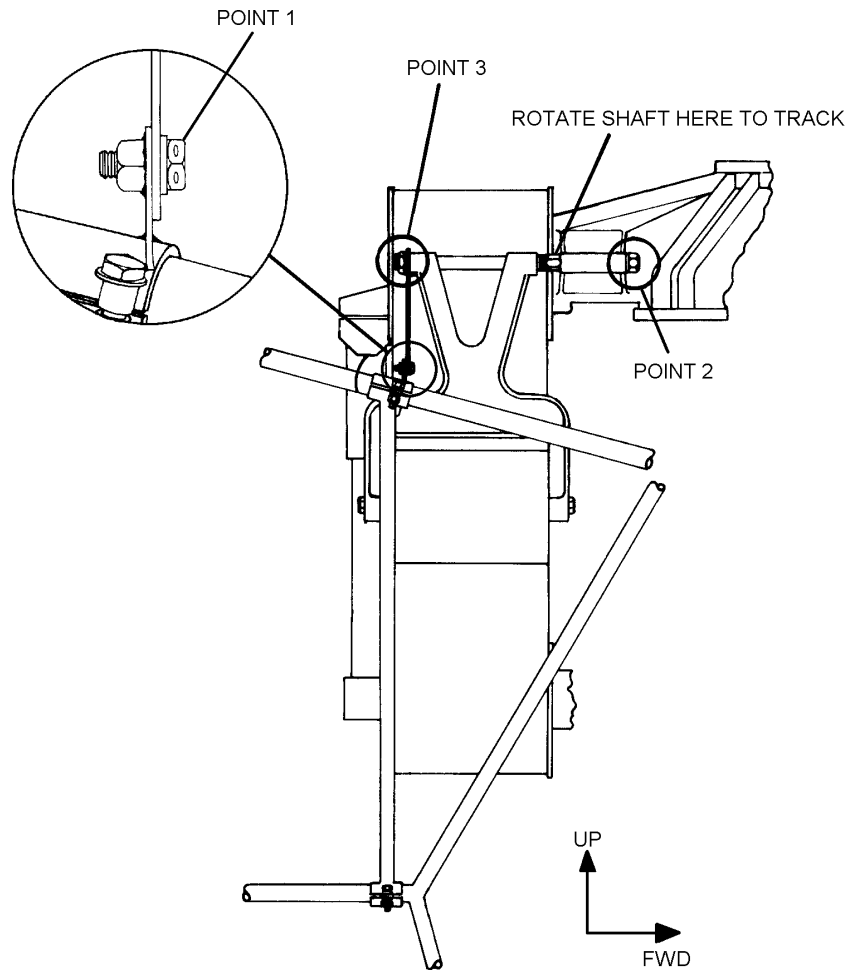

Figure 3. Idler Pulley Tracking (Viewed from Right)
- 3. Check/Adjust the idler pulley track using the following procedure (Refer to Figure 3).